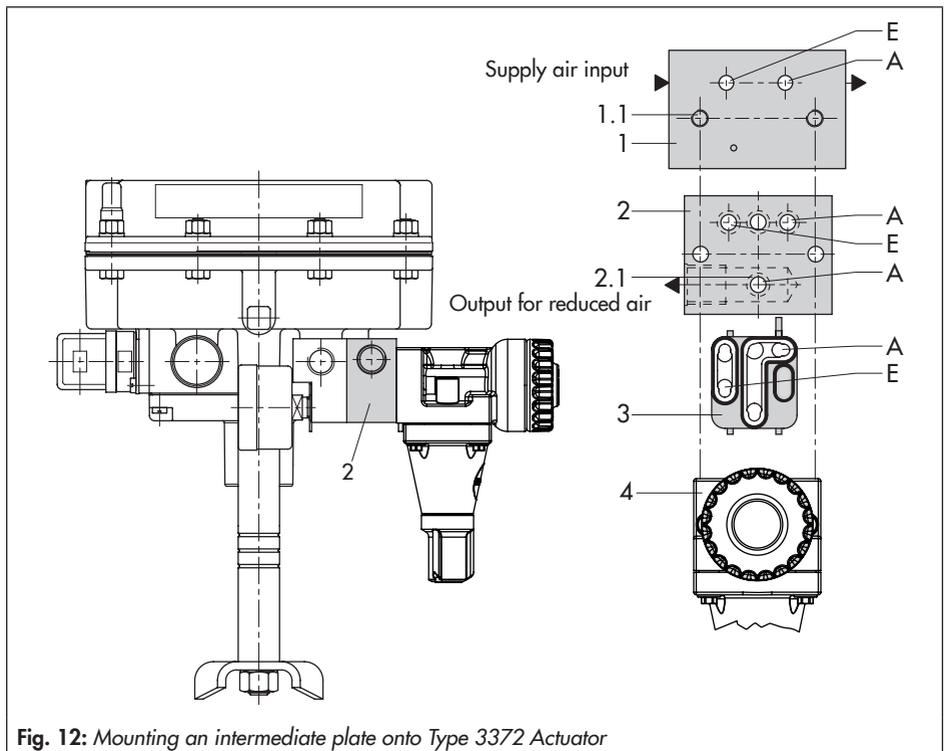

Fig. 12: Mounting an intermediate plate onto Type 3372 Actuator
1. Remove the fastening screws and lift the supply pressure regulator (4) together with the diverting gasket (3) off the adapter plate (1). Make sure you do not change the position of the diverting gasket in the supply pressure regulator.
- ➔ The long rubber finger of the diverting gasket (3) must always point toward the regulator outlet (reduced supply pressure). See Fig. 11 and Fig. 12.
2. Insert the O-rings (2.1) into the boreholes of the intermediate plate (2).
4. Place the supply pressure regulator (4) with the diverting gasket (3) onto the intermediate plate (2). Insert the longer fastening screws and fasten the parts.